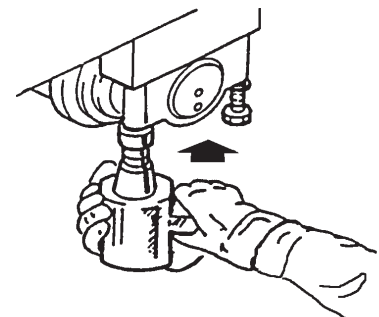

Fig. 3-78 Track roller - install
6. Install track roller assembly on track frame (fig. 3-78). Torque capscrews according to "Metric Bolt Torque Specifications" in this section.